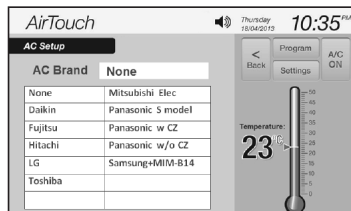

Figure 28.
- Touch the edit field of 'AC Brand', all selectable AC brands/models will be listed (Figure 28).